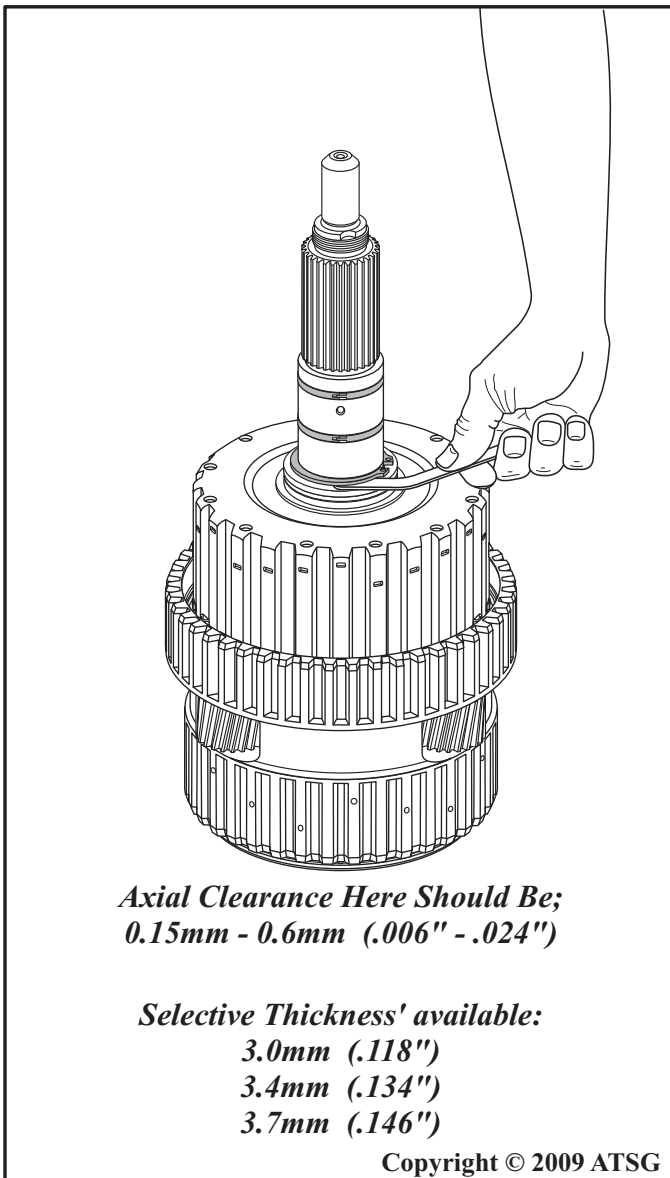

Figure 150
- 58. Measure clearance using feeler gauge between snap ring and number 13 thrust bearing race, as shown in Figure 150.
- 59. The planetary gearset axial clearance should be 0.15mm - 0.6mm (.006" - .024"), as shown in Figure 150.
- 60. Change the number 13 thrust bearing race to obtain the proper clearance. There are three selectives for this location and are listed in Figure 150.